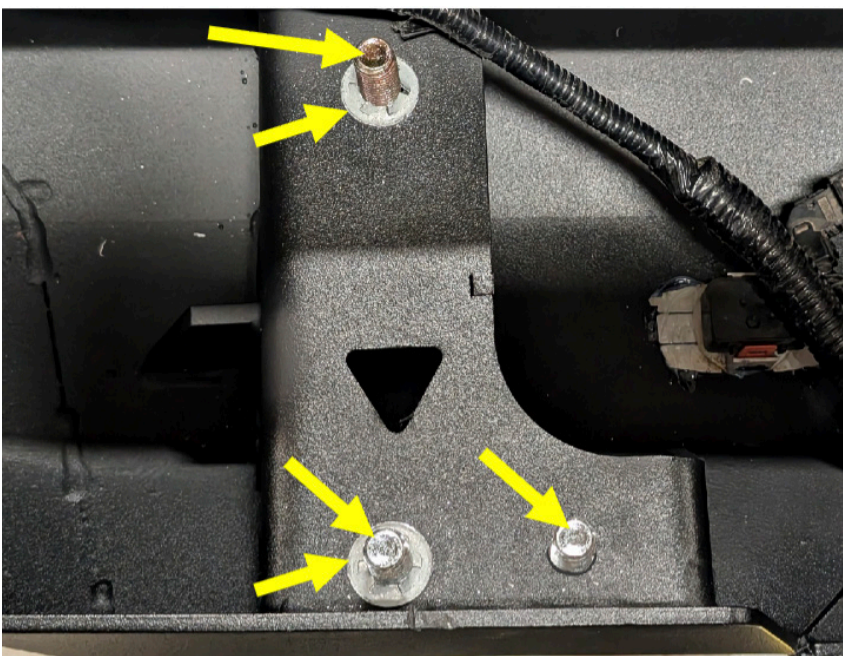

Figure 24
24. Place the provided 2x 1/2" bolt strips [20296] into the base of the DS and PS bumper brackets along with 2x 1/2" HHCS with flat washer on the top of the brackets. Use the provided 1/2" retaining washers to hold the bolt strips and bolts in place. (Figure 24)